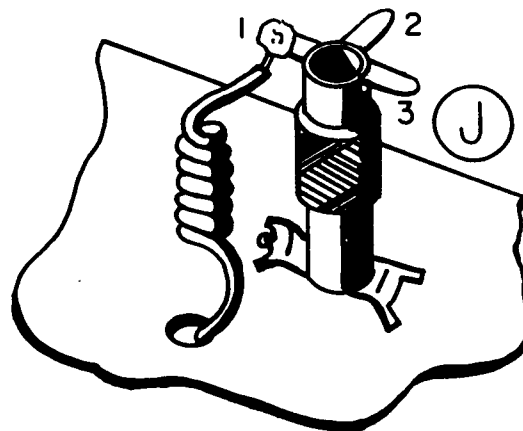

Figure 3
✓ Wind a 2-1/2" wire around a piece of solder to form a coil. Remove the solder from the coil. Attach one end of this coil to oscillator coil J-1 (NS) as shown in Figure 3. Feed the other end through the small hole in the chassis near the oscillator coil and connect it to tuner 0-2 (S-1). Make sure tuner 0-2 does not touch the chassis.